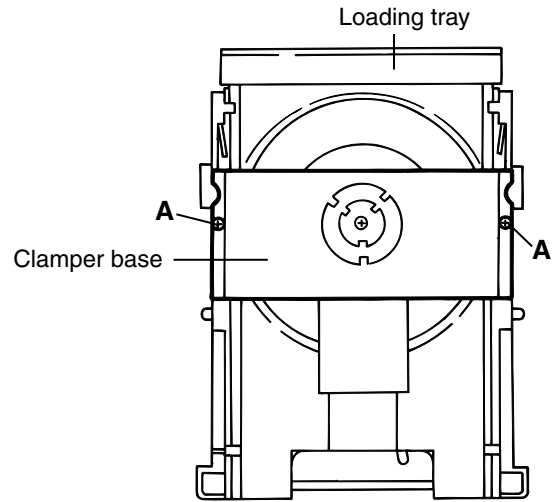

Fig.1
- 1.Remove the front panel assembly.(See Fig.1~5)
### ■ Removing the clamper base (See Fig.1)